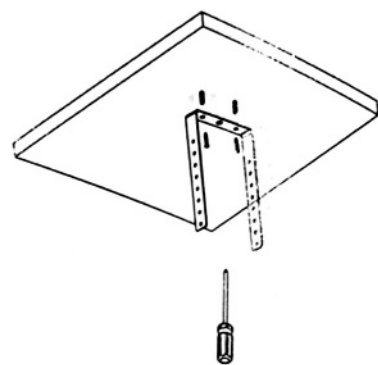

Figure 3-4
4. Fix the driver box cover on the ceiling; Figure 3-4